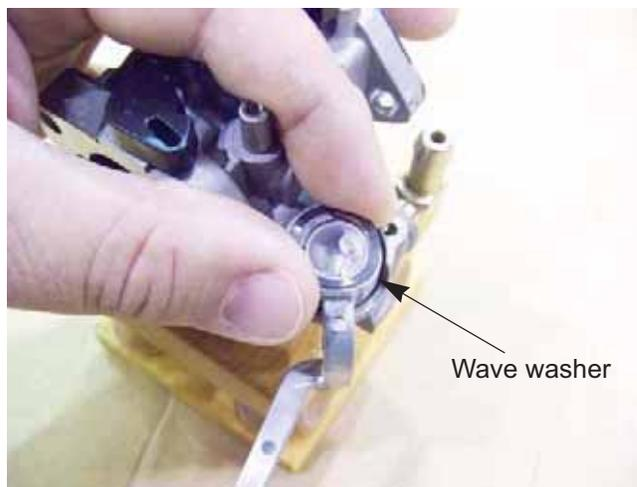

Figure 4.37
5. Remove the wave washer. See Figure 4.37.